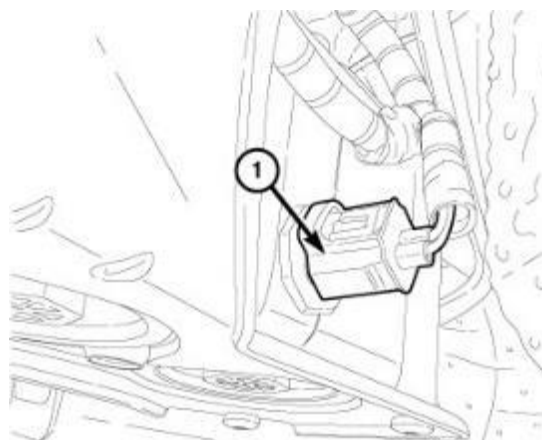

Figure 24 - WIF Sensor Connector
- 60. Disconnect the Water In Fuel ("WIF") sensor wire harness connector (1) (Figure 24).
73. Connect the Water In Fuel (WIF) sensor wire harness connector (1) (Figure 24).